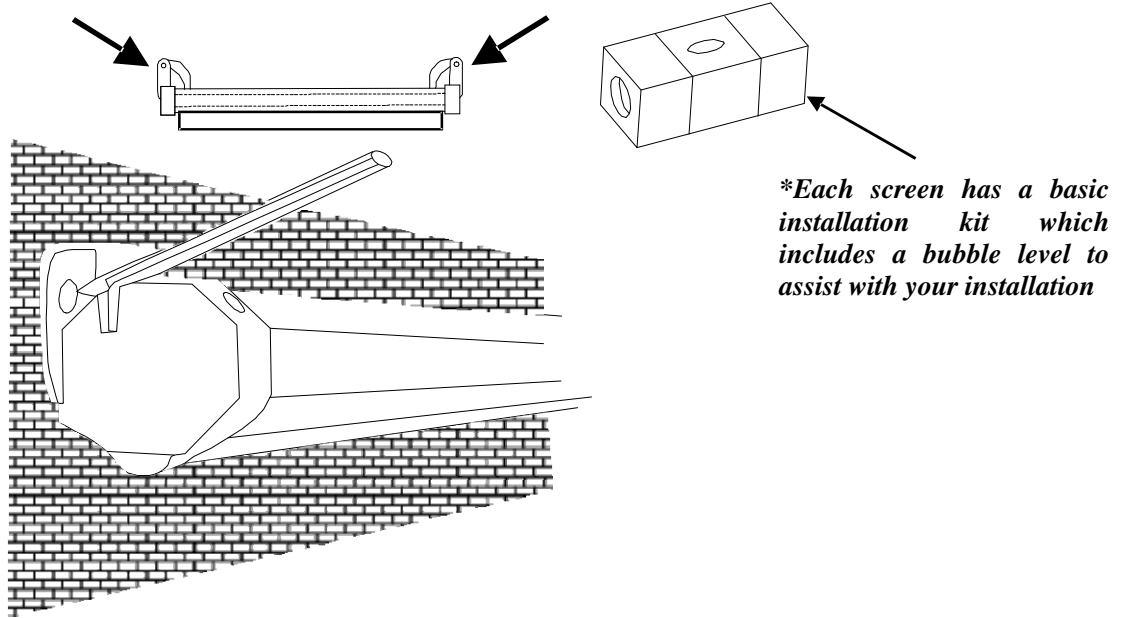

Fig. 1
1. Using a tape measure, mark the keyholes that are located at the back of the screen's casing end cap. 2. After marking the area and drilling the holes, insert the screw and leave about 1/8" of an inch from the wall to mount the screen. **(Fig. 1)**